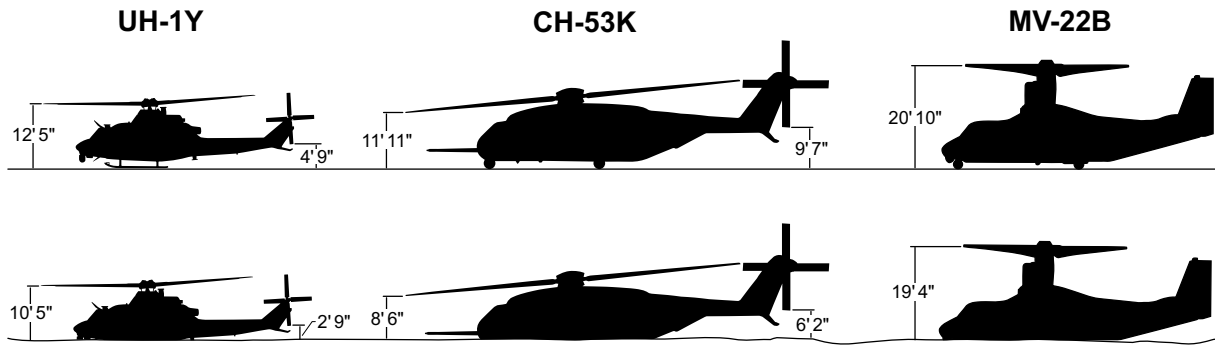

Figure 11-1. Rotor Clearance for Marine Corps Aircraft.
- **Rotor Blade Hazards.** In deep snow-covered LZs, the helicopter may sink into the snow, reducing the rotor-blades-to-surface clearance. Use of the ahkio huddle technique (organizing by tent and sled team) for loading and unloading reduces the danger of being struck by the rotor blades. In sloping LZs, the helicopter should not be approached from the upslope side as rotor-blades-to-surface clearance is further reduced. Extreme caution must be exercised when operating near the tail rotor. Refer to Figure 11-1 for rotor blade clearances.